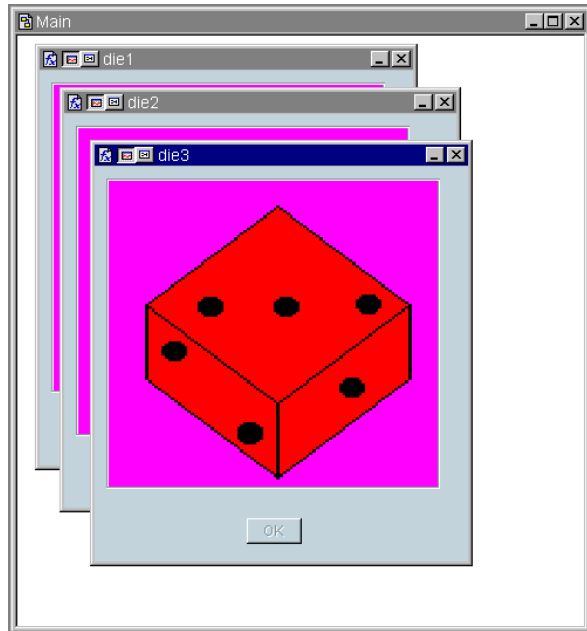

Figure 238 Early Stage in the Dice Program
- 7 Create two more UserFunctions by selecting Clone in the `die1` object menu. The new UserFunctions appear automatically as **die2** and **die3**. Change the picture objects to `die2.gif` and `die3.gif` respectively. Check all the settings of the new functions to make sure they match `die1` except for the names and bitmaps. The program should look like Figure 238. Iconize the function windows.